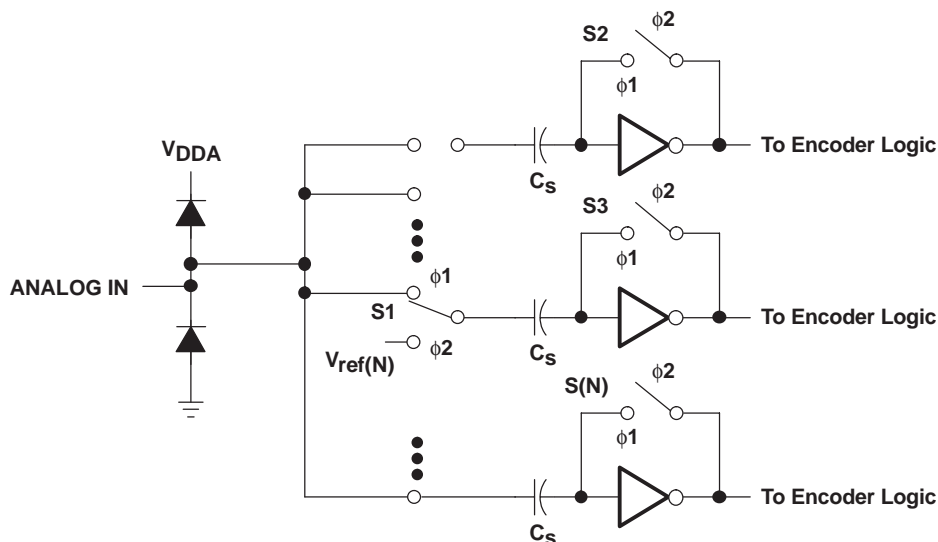

Figure 13. External Connections for Using the Internal Reference Resistor Divider
Figure 13 depicts the analog input for the TLC5540. The switches shown are controlled by two internal clocks, $\phi 1$ and $\phi 2$. These are nonoverlapping clocks that are generated from the CLK input. During the sampling period, $\phi 1$, S1 is closed and the input signal is applied to one side of the sampling capacitor, C_S . Also during the sampling period, S2 through S(N) are closed. This sets the comparator input to approximately 2.5 V. The delta voltage is developed across C_S . During the comparison phase, $\phi 2$, S1 is switched to the appropriate reference voltage for the bit value N. S2 is opened and $V_{\text{ref}(N)} - VC_S$ toggles the comparator output to the appropriate digital 1 or 0. The small resistance values for the switch, S1, and small value of the sampling capacitor combine to produce the wide analog input bandwidth of the TLC5540. The source impedance driving the analog input of the TLC5540 should be less than 100 Ω across the range of input frequency spectrum.